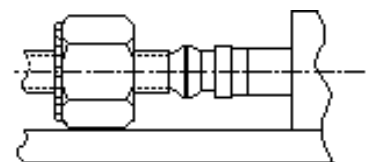

Figure 18. Insertion unit fixing position
- Fix the tube holder to the base plate as shown in Figure 18.